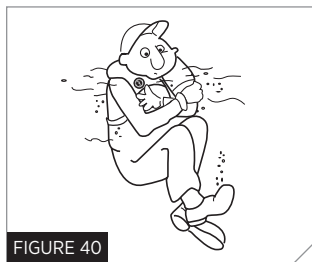

FIGURE 40
3. Use the standard HELP position when wearing an inflatable PFD, drawing the legs up to a seated position, because doing so will help you conserve body heat (Fig. 40).